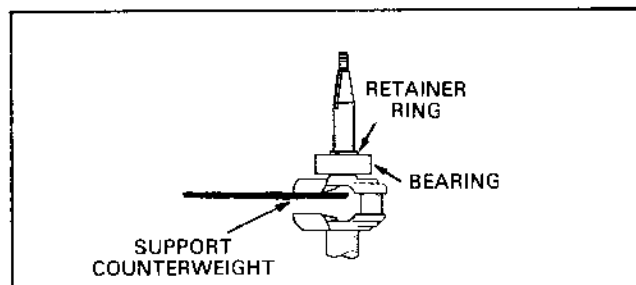

Figure 2-5D
4. To remove the bearing race, remove the retainer ring on the crankshaft with a snap ring pliers, Figure 2-5D, (positioning bearing race) and with the use of a bearing splitter or arbor press remove the ball bearing.